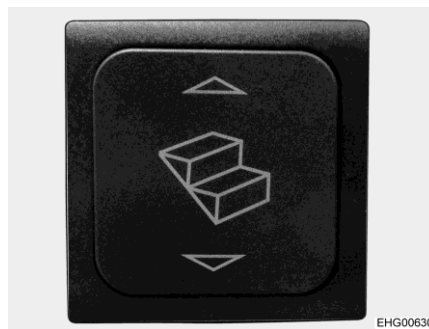

Fig. 1 Rocker switch for entrance step
- Press the rocker switch (Fig. 1) down until the entrance step has extended completely.
- Press the rocker switch (Fig. 1) up until the entrance step has retracted completely.